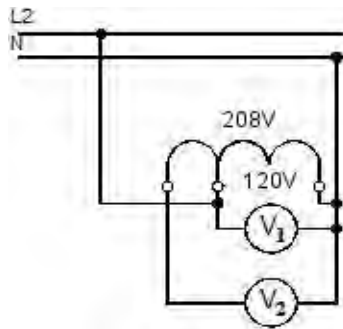

Figure 3:
1. Wire up the circuit in accordance with the set-up and wiring diagram of Figure 3.